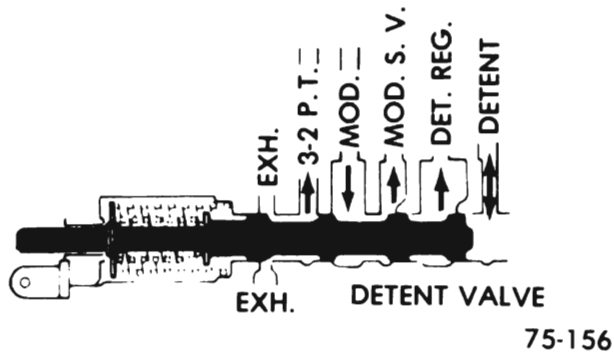

Figure 75-24 - Detent Valve
**K. Detent Valve (Actuated by Cable Linkage From Throttle Linkage) (See Figure 75-24)**